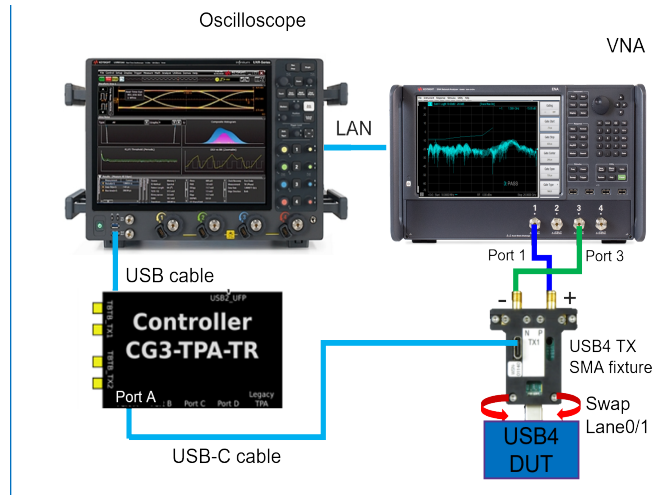

Figure 162 Tx Return loss test setup with Tx SMA test fixture
- 1 For the physical connections between the DUT & the Oscilloscope, see the connection diagrams in Figure 162 and Figure 163.